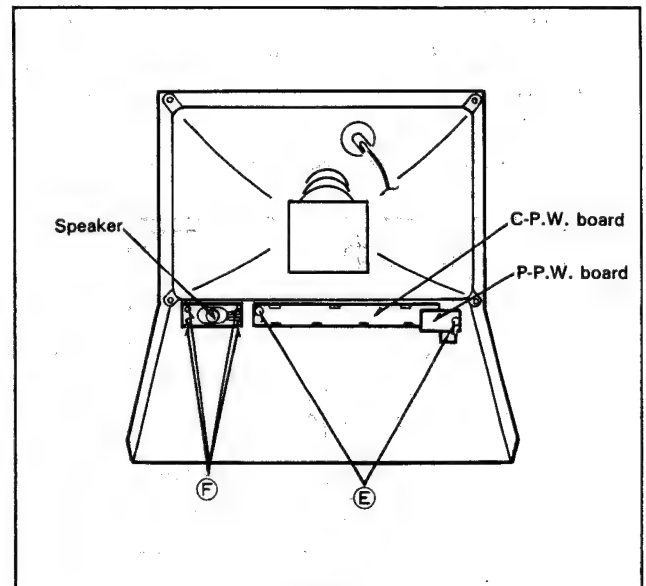

Fig. 11
2. Remove 2 screws ⑤.
Remove 4 screws ⑥ as shown in Fig. 11.